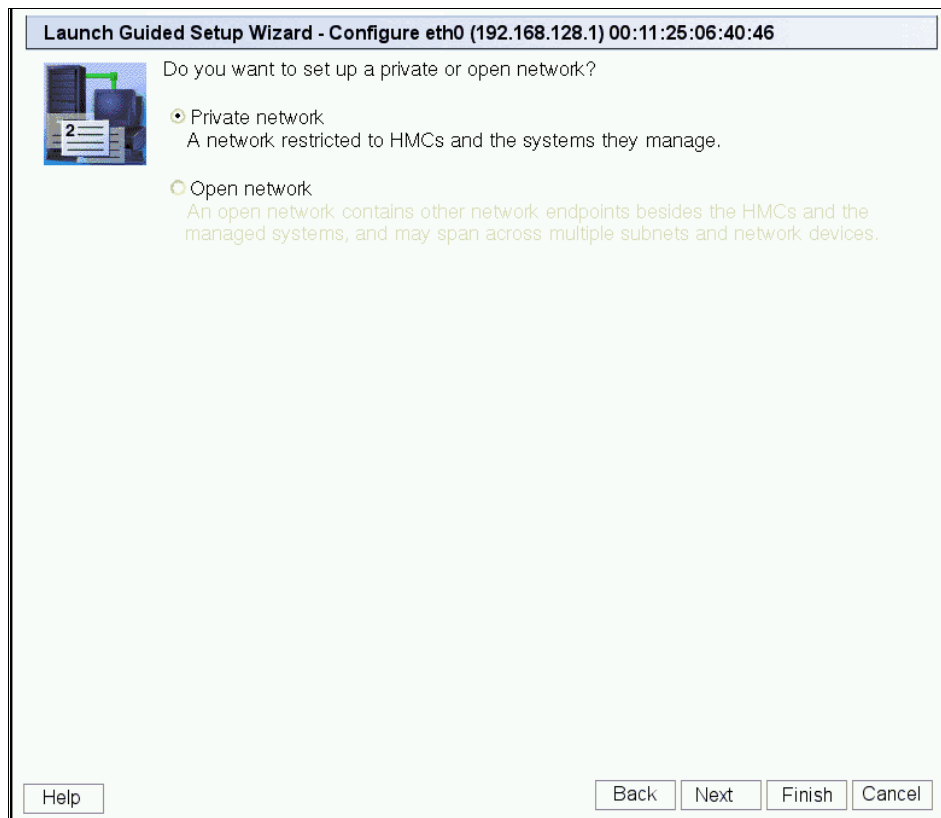

Figure 3-19 Launch Guided Setup Wizard - Configure eth0 Private Network
12. The Launch Guided Setup Wizard - Configure eth0 Private Network panel displays as shown in Figure 3-19. As mentioned previously, we set the LAN adapter eth0 as a private network to connect to our managed systems.